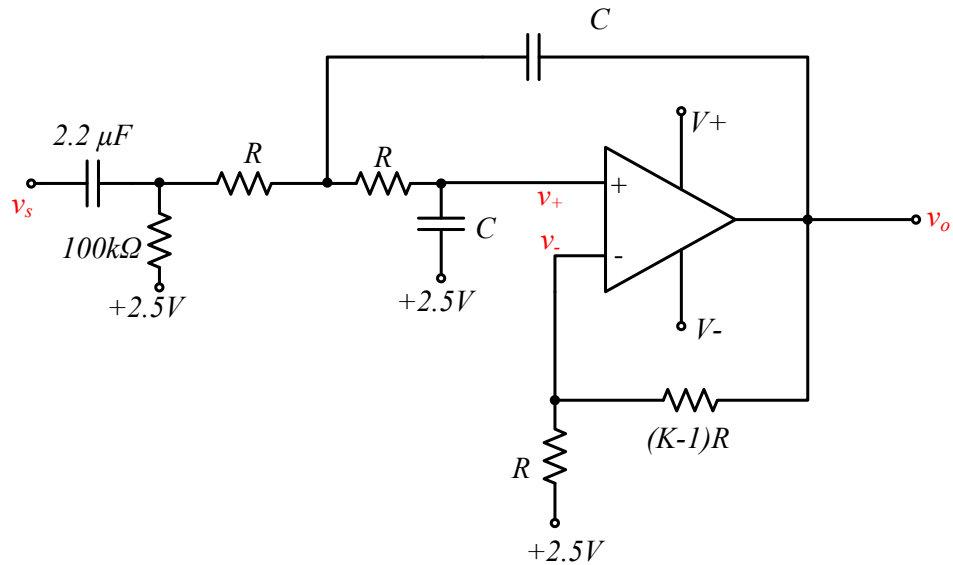

Figure 2: Sallen-key Active Low-Pass Filter
The transfer function and the design equations of the Sallen-key low pass filter shown in Figure 2 can be represented as follows:
1. Build the Sallen-key low pass filter circuit on breadboard as shown in Figure.2.